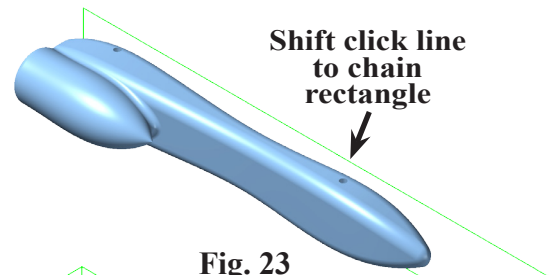

Fig. 23
Step 3. **Shift click** a line of the rectangle to chain rectangle, Fig. 23 and **press ENTER**. To Shift click, hold down the Shift key and click a line of rectangle.